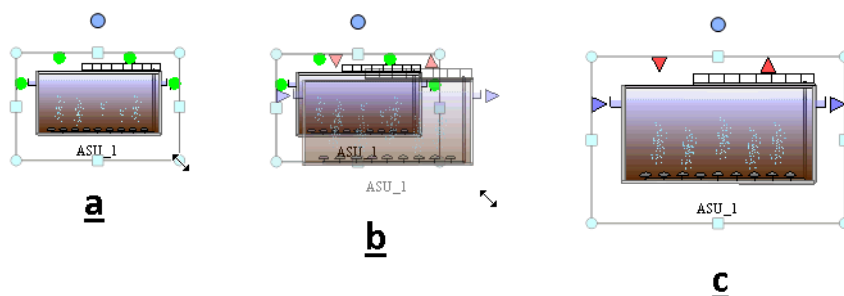

Figure 5.5 Resizing a Block
- Hover the mouse over one of the handles until the mouse pointer changes into a two-headed arrow (Figure 5.5-a)
- Drag the resizing handle to reach the desired size of the Block (Figure 5.5-b)
- Release the mouse (Figure 5.5-c)